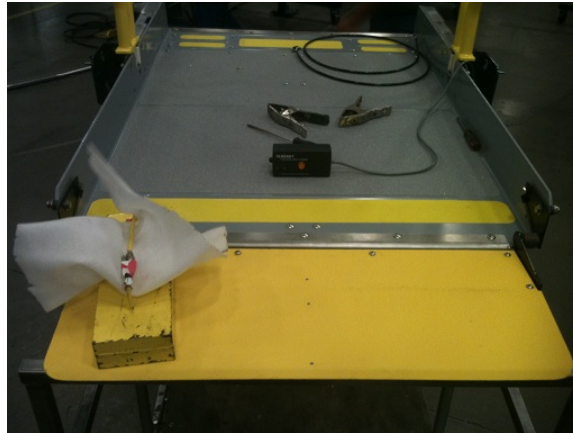

FIGURE 2-7. 25 LBS. (11 KG) LOAD TEST (LEFT SIDE)
- b. Refer to **Figure 2-7**. Perform Load Test by placing 25 lbs. (11 kg) of weight on the left side of bridgeplate. Verify that the platform does not move when DOWN button is pressed.